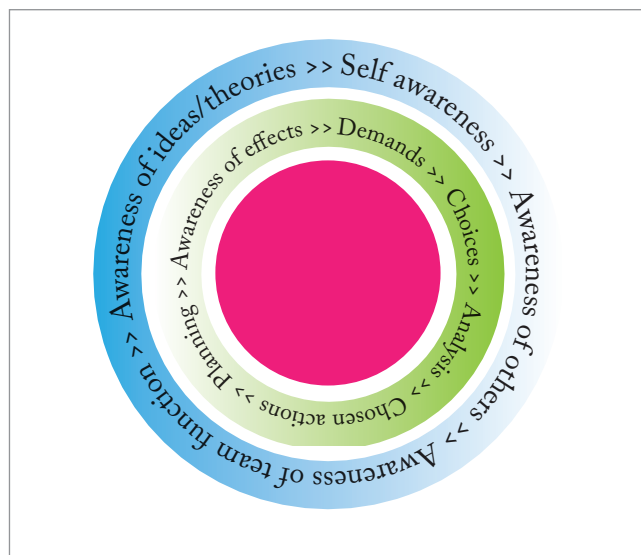

Fig 1. The circular nature of mindfulness.
Zinn (6) describes mindfulness as 'having to do with being in touch'. A person's ability to improve his or her own mind, simply by attending to the mind as a functioning object in its own right, can be something of an eye-opener! This mental improvement is not just a felt sense, it also correlates to real neurological changes. Bringing active attention to the mind, that is, meditation, is the main way people develop mindfulness (see Figure 1). Direct observation of our physical experiences, feelings, and thoughts, fosters direct insight into the nature of our sense of self, releasing vitality, and supporting a stronger sense of our place in the world – and in the analytical laboratory.
Fig 1. Structure of most popular phases (left). By incorporating the phenyl group in the chain, the phase becomes more thermally stable. However, the selectivity is also changed.
Over the last decade, we've made big breakthroughs in stabilizing stationary phases using silphenylene groups. We found that it was possible to reduce the breakdown reaction of diphenyl siloxanes by building the phenyl group in the main chain (see Figure 1) (1). Such phases show lower bleed, but also show different selectivity – something that is not always made clear by vendors – which can lead to strange examples of peak elution shifts; that's why some vendors supply traditional 5% diphenyl siloxane alongside the stabilized silphenylene phase.